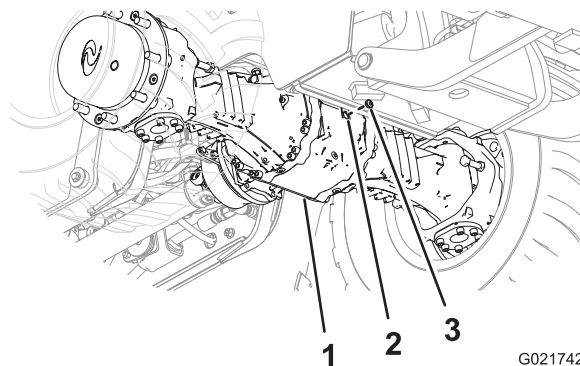
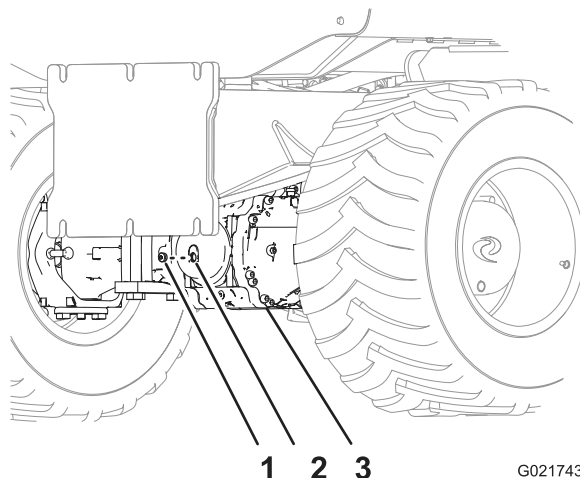

Figure 66
Figure 67
3. Look through the sight port and check that the oil level in the axle is level with the bottom of the threads of the port (Figure 66 and Figure 67).
6. Install the sight plug into the sight port in the pinion housing of the axle (Figure 66 and Figure 67).